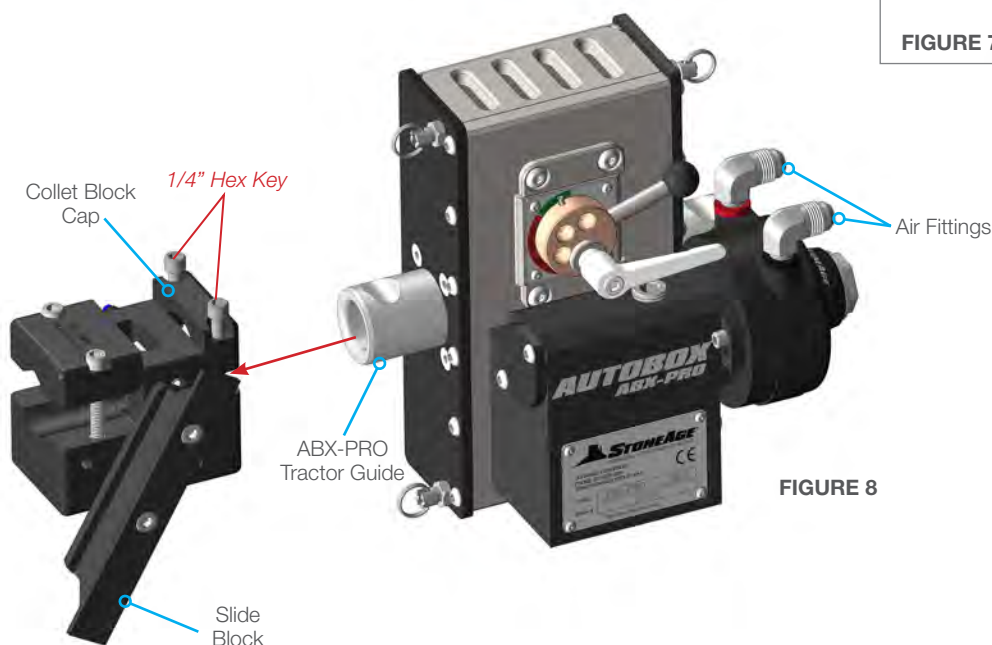

FIGURE 8
2. Loosen the Collet Block Cap with a 1/4" hex key and slide the Collet Block onto ABX-PRO Tractor Guide into the until it comes to a stop. The Air Fittings on the ABX-PRO Tractor should be opposite the Collet Block and the Slide Block should be on the same side ABX-PRO label. **(Figure 8)**